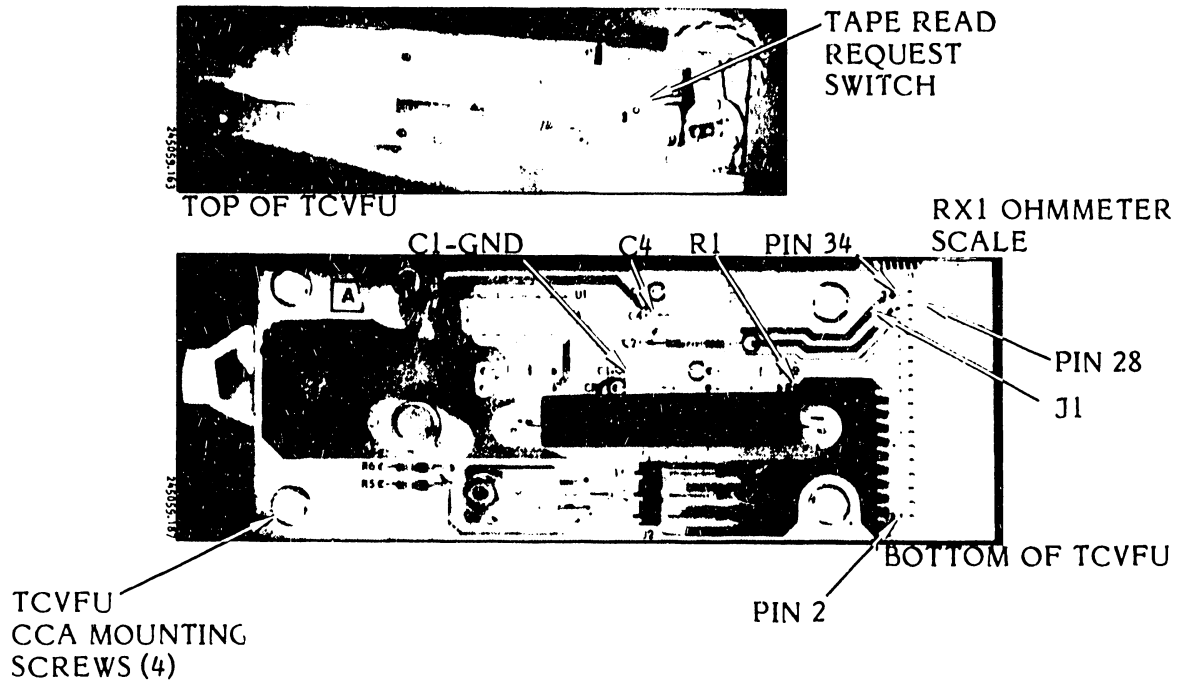

Figure 3-28. Tape Read Request Switch Test
2. Connect an ohmmeter (Rx1 scale) across R1 and C4 of the TCVFU CCA (see figure 3-28).